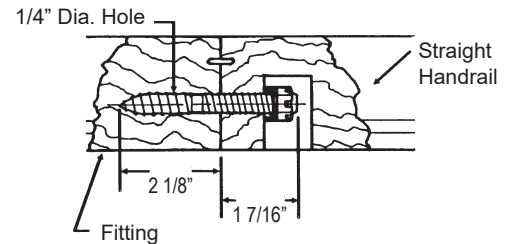

Fig. 2
2. Drill a 1/4" Dia. hole 2 1/8" deep into the fitting. Install the lag screw end of the Rail Bolt into the fitting until 1 7/16" of it remains exposed as shown in Fig. 2.